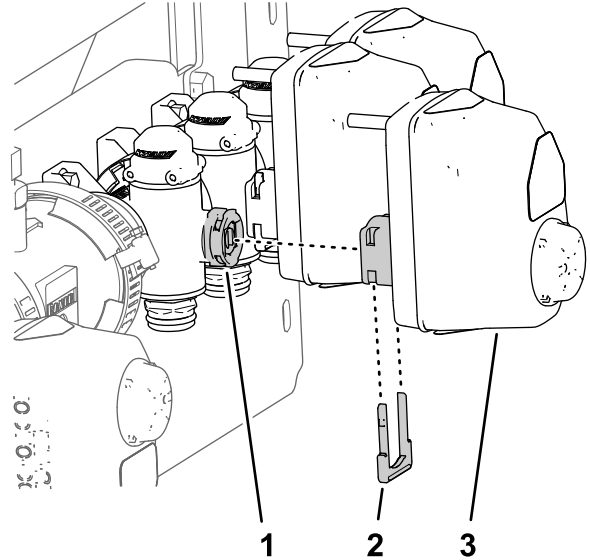

Figure 51
8. Align the coupler of the section valve actuator that you removed in step 2 of Removing the Valve Actuator \(page 23\) with the stem port of the manifold valve (Figure 51).
9. Secure the section valve actuator to the manifold valve with a retainer (Figure 51) that you removed in step 1 of Removing the Valve Actuator \(page 23\).